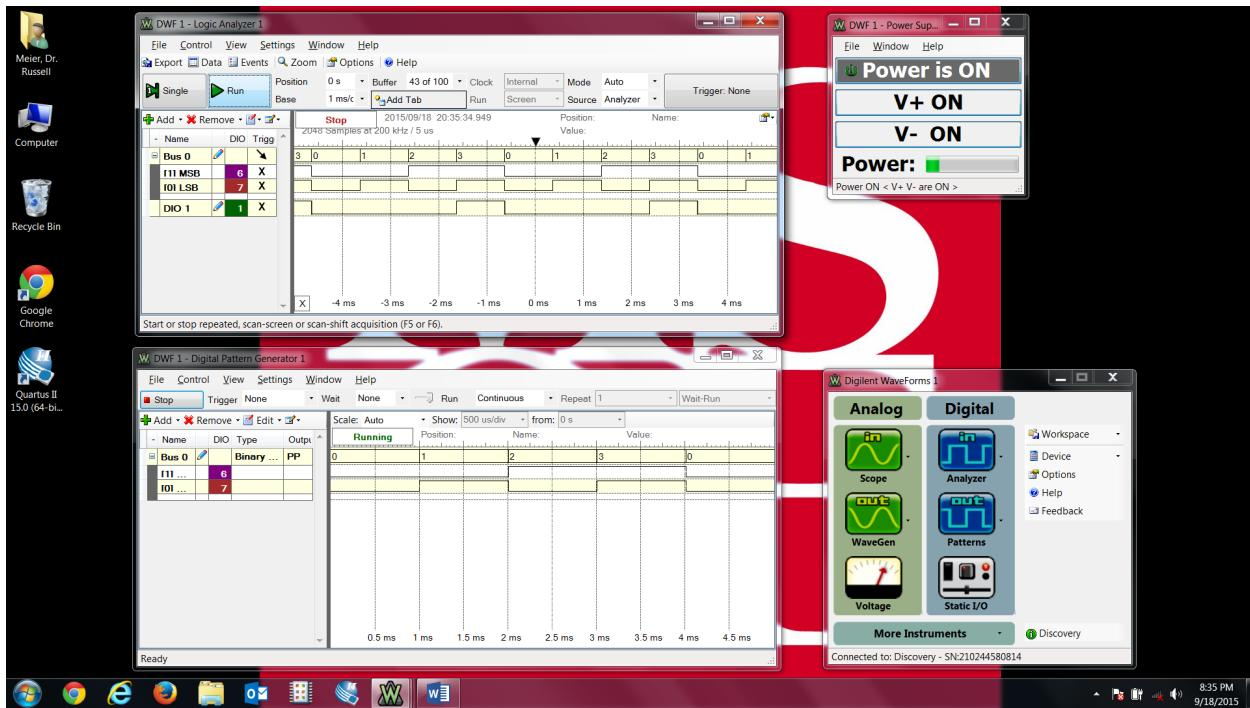

Figure 8: The Completed 7408 AND Gate Test
- Verify that the AND gate is functioning by comparing your logic analyzer timing diagram against the AND truth table. The timing diagram should look similar to Figure 8.